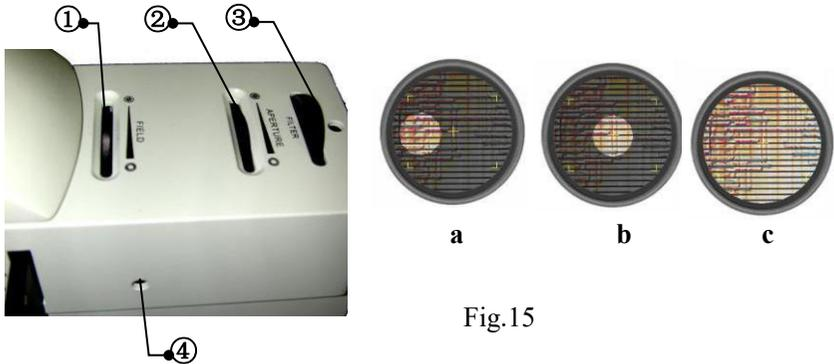

Fig.15
Turn 10X objective into optical path and turn down the field diaphragm ① to minimum. If the field diaphragm offset the center of eyepieces field of view, Like fig.15-a, you can adjust the center of field diaphragm by two hexagon wrenches, insert the hexagon wrenches in the holes ④ to make field diaphragm center and eyepieces field of view center coincide, like fig.15-b. After adjusting, open the field diaphragm to accord with your need, like fig.15-c.
The iris diaphragm ② has a good center at the factory, user no need center it. Using low magnification objective, open the iris diaphragm to bigger. Using high magnification objective, open the iris diaphragm to smaller. See fig.15.
The filters of reflected illumination are installed in the turn-plate ③, have yellow, green, blue filter, frosted glass and through-hole. Turning the turn-plate, you can select different filter or frosted glass to change the substrate of image. See fig.15.